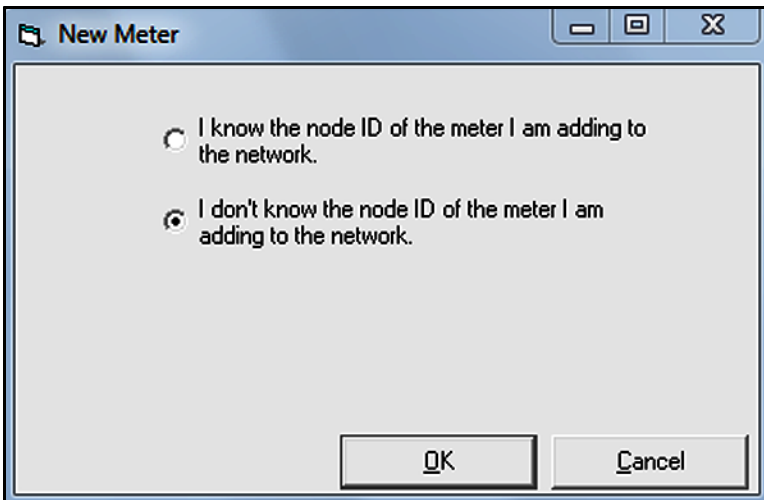

Figure 31: The Node ID Dialog Box
5. After selecting the “New” and “Meter” options, the dialog box shown in Figure 31 below opens. Select the “I don’t know the node ID of the meter I am adding to the network” radio button and then click on the [OK] button.
- a. At the Node ID dialog box (see *Figure 31 on page 46*), select the *“I know the node ID of the meter I am adding to the network”* option and click on the [OK] button.